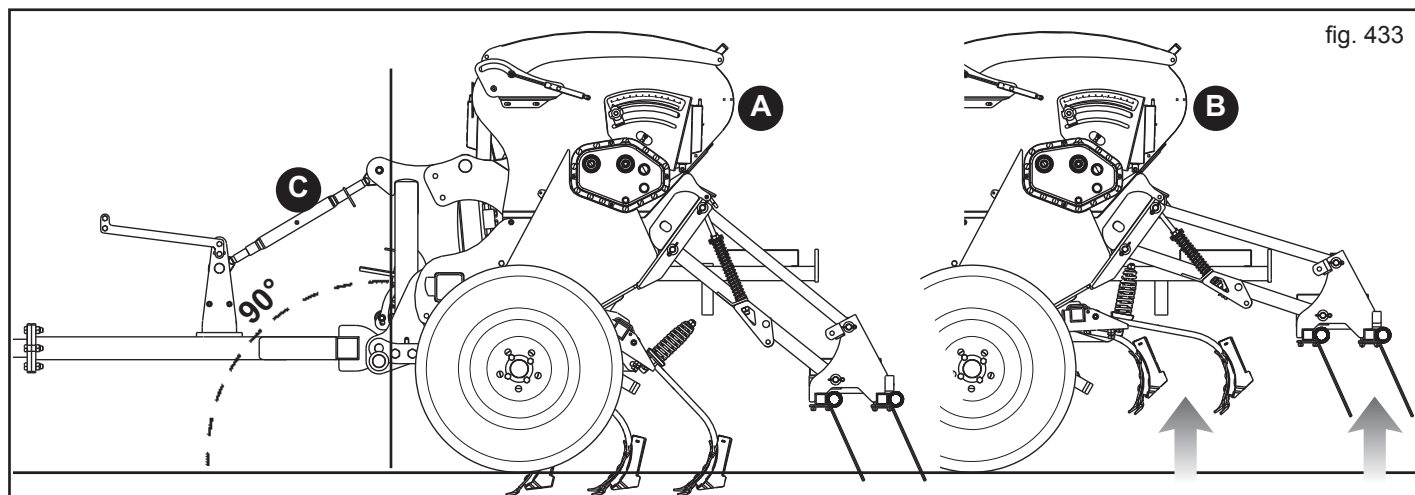

fig. 433
On request, the mounted version of the seed drill can be equipped with a transforming element to make it trailable (Fig. 433). Applicable to tracked tractors, the trailed seed drill is ideal for planting in hilly areas.
- 1) Attach the equipment to the tractor's load hooking bolt. Secure the load hooking bolt by means of the safety pin; using the regulating tie-rod (C, Fig. 433) ensure that the seed drill is perpendicular to the ground (Fig. 433).
The transmission disengages automatically when the equipment is lifted to the transporting position (B, Fig. 433).